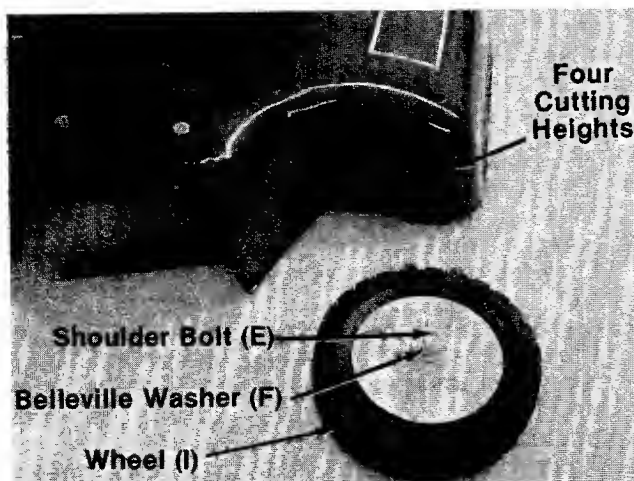

FIGURE 3.
- I (4) Wheels
- J (2) Upper Handles
- K (1) Lower Handle
3. Your mower has four height settings. Use the same hole for all four wheels when assembling. See figure 3.
A. Place shoulder bolt (E) through wheel (I). See figure 3.
B. Place crown side of belleville washer (F) towards the wheel (away from deck). See figure 3.
Adjustment is made by removing and moving axle bolts to desired position. Cutting heights will be raised as axle bolts are moved to a lower hole and lowered as axle bolts are moved to a higher hole in the deck. All axle bolts must be mounted in the same relative position to the deck. The cupped side of the belleville washers must be against the deck. See figure 3.